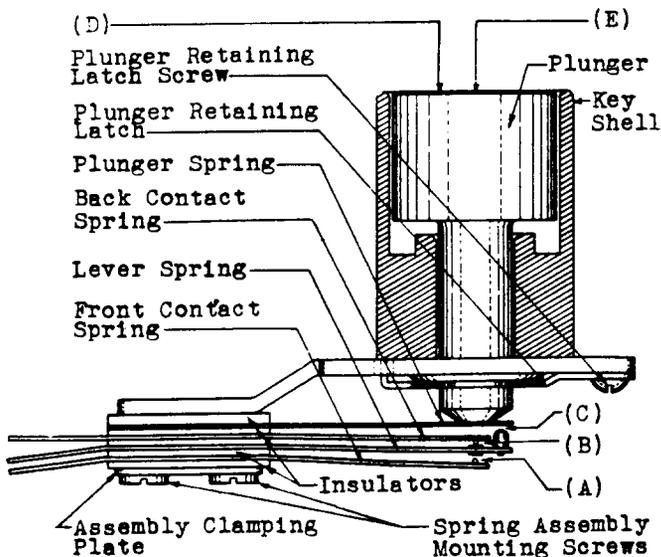

Fig. 4
Fig. 4 (B) - There shall be a pressure between the normally closed contacts when the key is normal and between the normally open contacts when the key is operated of:
***2.07 Stud Gap (520-F, J and K Keys) - Fig. 4 (C)** - With the key in the normal or unoperated position, there shall be a perceptible clearance between the plunger spring and the lever spring stud. Gauge by eye.
(b) 520-F, J and K Keys - Fig. 4 (D) - The force required to depress the button to the way-down position shall not exceed the actual contact pressure in this position by more than 300 grams. Use the No. 79-B gauge.
2.10 Plunger Non-Operate Pressure - Figs. 4 (E) and 5 (B) - The plunger shall not move out of the normal position when a pressure is applied of: